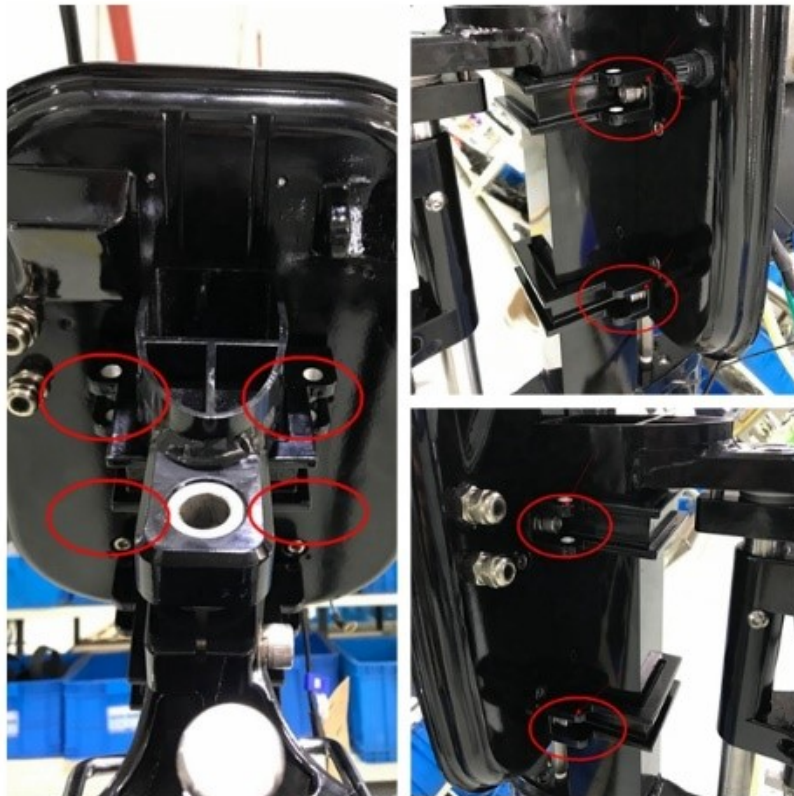

Figure 44: Locating the four motor clamp screws
- To adjust the tension first loosen the four motor clamp screws slightly, see **Figure 44**.